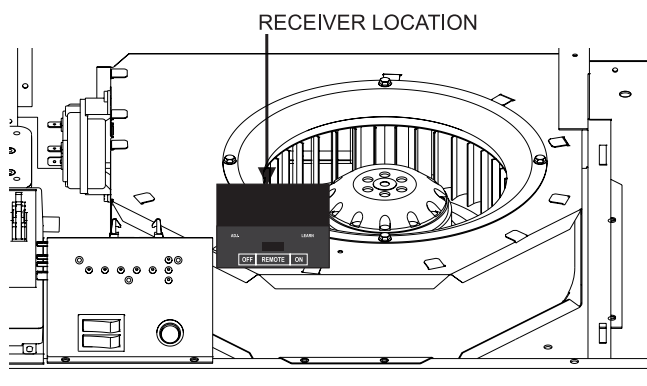

Figure 61
- A. With main electrical power to the fireplace turned off, install 4 AA sized 1.5V batteries into the remote receiver. The remote receiver is located inside the fireplace, mounted to the top of the blower housing and secured with hook and loop tape. See Figure 61. Set up receiver and remote per instructions on pages 34 - 39.